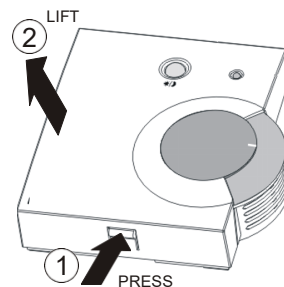

Fig. 2. Removing the cover
1. Remove the cover (see Fig. 2).
The wall module features a configuration potentiometer (accessible only after removing the top cover and, in the case of the C7110D1009A, also the setpoint wheel – see Fig. 2) which can be used to configure the output of terminal 2 (CO₂ level) and (when in the "Relay Output" mode) the "Threshold Level (ppm)".